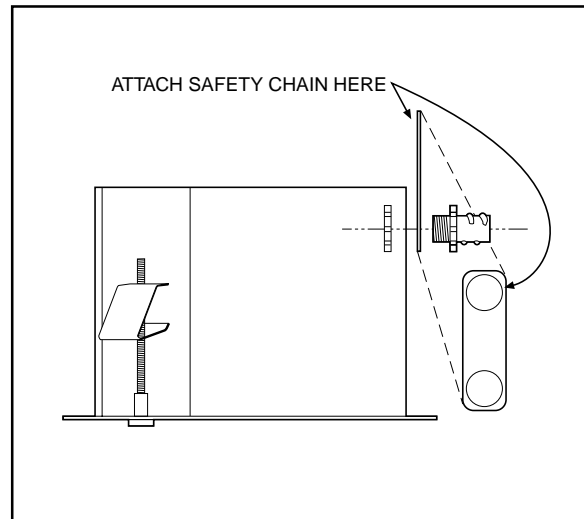

Figure 3. Conduit Fitting Installation
5. Remove the conduit fitting, lock nut, and safety chain bracket from the parts bag and attach them to the back box as shown in Figure 3.
6. Remove the conduit fitting, lock nut, and safety chain bracket from the parts bag and attach them to the back box as shown in Figure 3.
2. Install a safety chain or cable (not supplied) that will support up to 16 pounds (7.3 kg). Fasten one end to a support structure in the ceiling. Fasten the other end to the safety chain bracket (refer to Figure 3) to prevent the back box from falling.